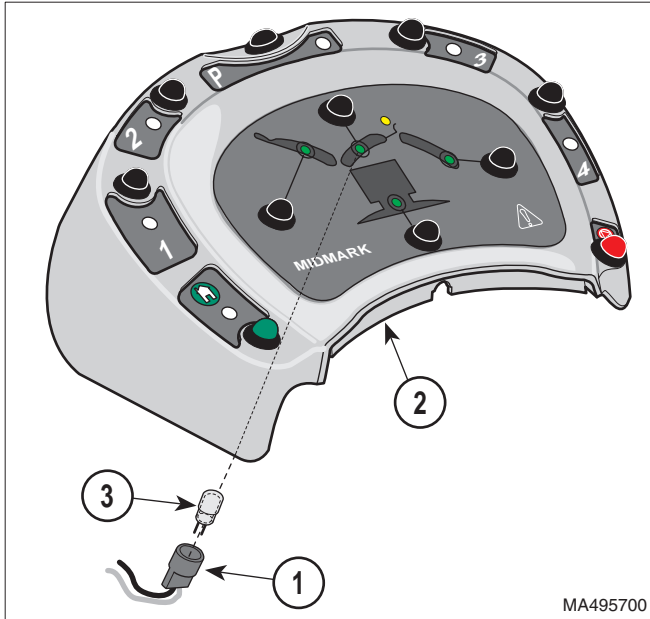

Figure 4-45. Typical Foot Control Lamp Removal / Installation
- (1) Remove foot control top. (Refer to para 4.28 *or* 4.29).
- (2) Remove bulb socket (1, Figure 4-45) from foot control top (2).
- (3) Remove bulb (3) from bulb socket (1).